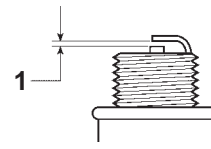

Figure 18
4. Set the gap on the new plug to 0.020 in. (0.50 mm) (Fig. 18).